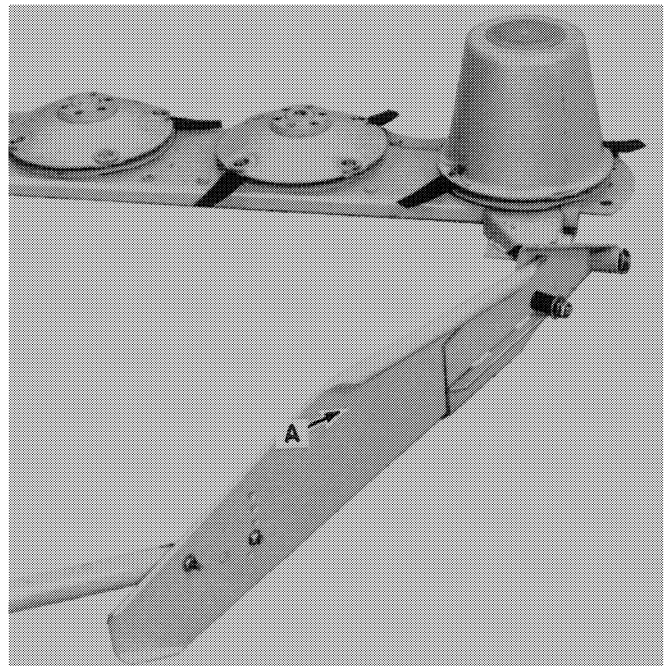

FIGURE 2
2. Remove the swath board assembly A, Figure 2.